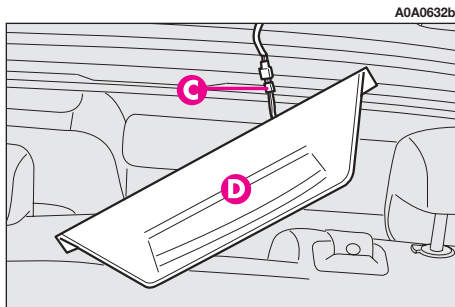

fig. 37
- disconnect the connector (**C**-fig. 37), remove the led unit (**D**) and replace it with a new unit;